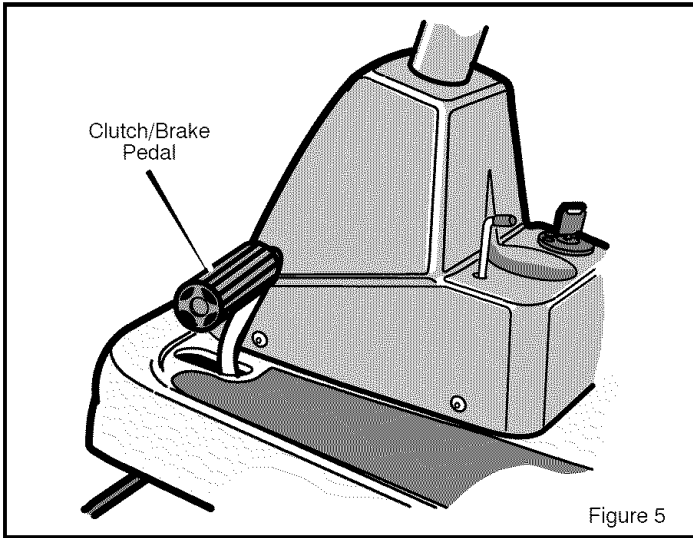

Figure 5
1. Completely push the **clutch/brake pedal** forward to stop the unit. Keep your foot on the pedal (see Figure 5).